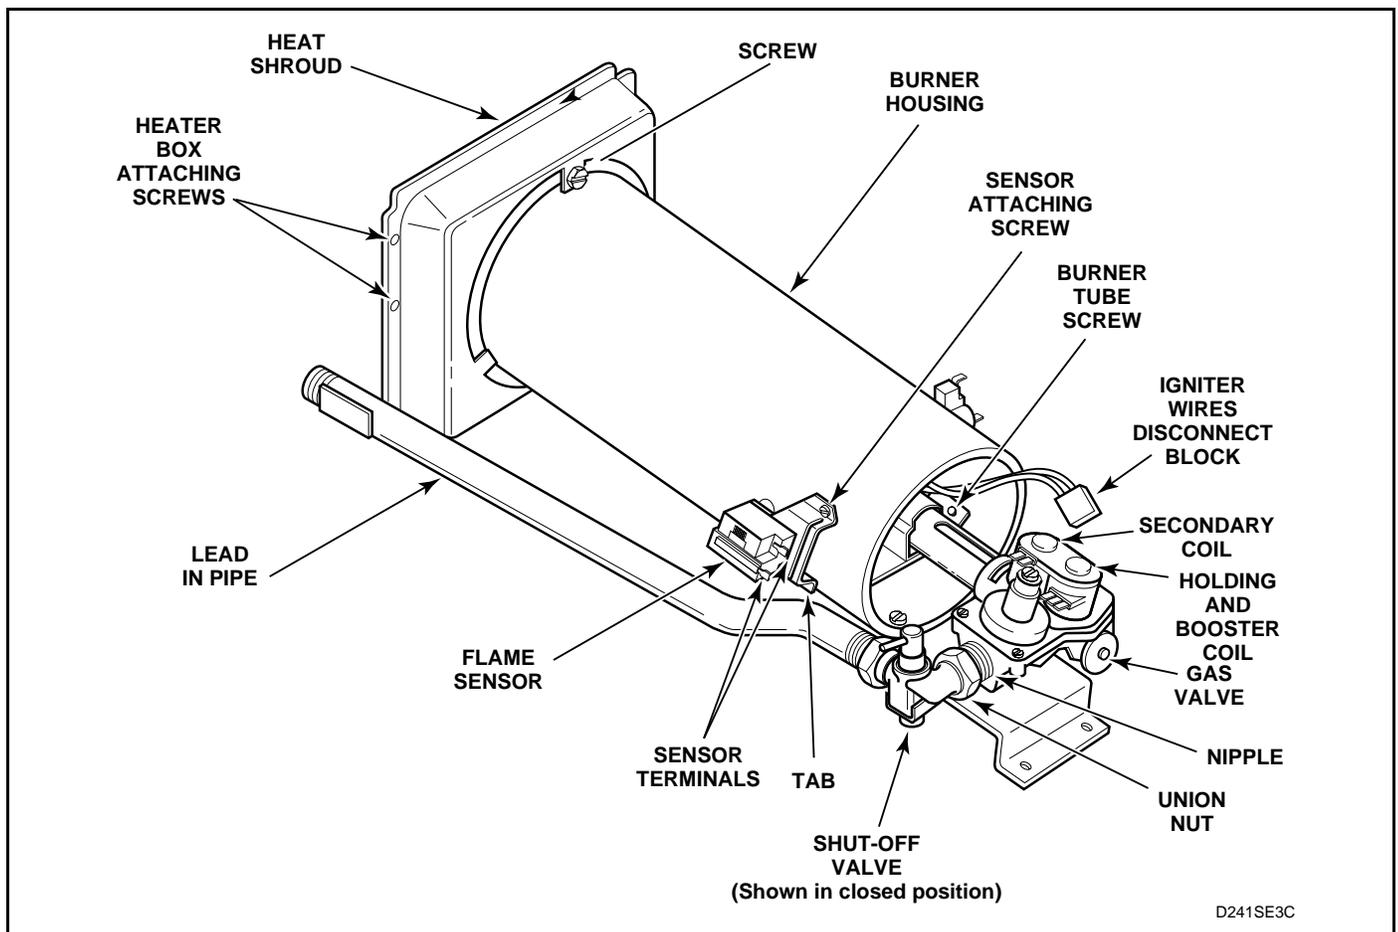

Figure 36
from gas valve coils at the quick disconnect blocks. See *Figure 36*.
- (4.) Disconnect gas shut-off valve from gas valve at the union nut. See *Figure 36*.
- (5.) Remove three screws holding valve and mounting bracket to base. See *Figure 36*.
- (6.) Lift gas valve and mounting bracket from base. See *Figure 36*.
- (2.) Gently move burner tube toward rear of dryer to disengage tab from slot on left side of burner housing. See *Figure 36*.
- (2.) Remove wires from flame sensor terminals. See *Figure 36*.
- (3.) Remove screw holding flame sensor to burner housing. See *Figure 36*.
- c. Disconnect igniter wires at disconnect blocks, sensor wires from flame sensor terminals, and wires from gas valve coils at the quick disconnect blocks. See *Figure 36*.
- e. Gently move burner tube toward rear of dryer to disengage tab from slot on left side of burner housing. See *Figure 36*.
- h. Remove screw holding burner housing to heat shroud. See *Figure 36*.